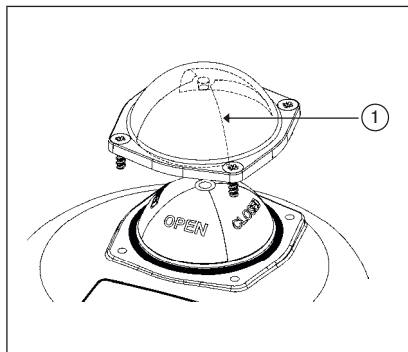

Figure 8: Removing glass hood
- Remove glass hood of the position indicator 1 including the sealing ring by loosening the four fastening screws and remove the glass hood (see “Figure 8”).